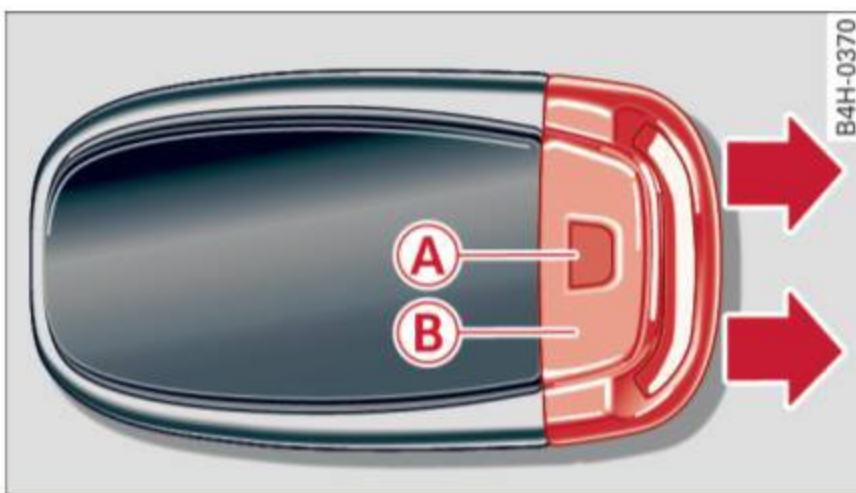

Fig. 19 Remote master key: removing the mechanical key
- ▶ Press the release button (A) ⇒ fig. 19.
- ▶ Pull the mechanical key (B) out of the master key.